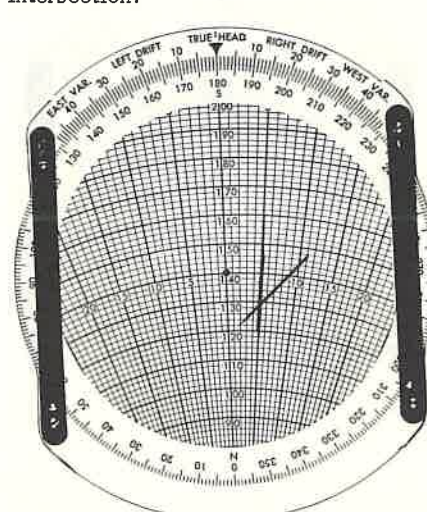

FIG. 5b
4. Draw a track line on the plotting disc 5 deg. to the right of the card heading line intersecting the first drift line. (See Fig. 5b)